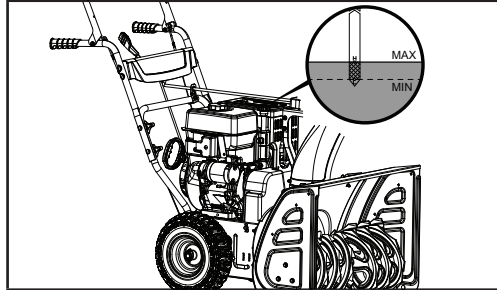

Figure 20
4. With the engine in a level position, fill to the upper limit mark on the dipstick with the recommended oil (0W-30) (Fig. 20).